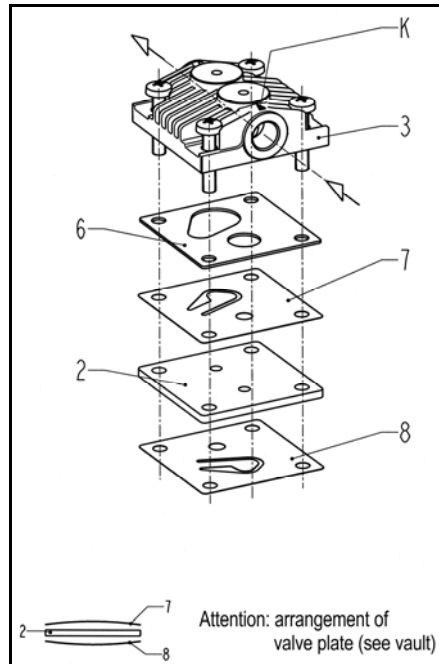

Fig. 6:
4. Fasten the "piston assembly" by tightening the screw (14).
5. Reassemble the "head assembly": stack the following parts on top of each other in the order given: ribbed head (3), gasket (6), valve plate (7), intermediate plate (2), and valve plate (8). Fig. 6 shows the correct orientation of the parts, particularly the valve plates, in relation to the compression symbol on the head plate. Both valve plates are identical, and they can be fitted either way up. The intermediate plate can also be fitted either way up.